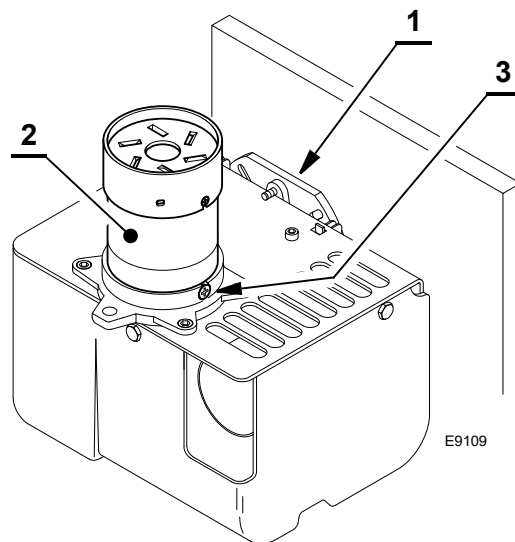

Fig. 20
- Hook the burner to the flange 1)(Fig. 20), by removing the blast tube 2) after loosening the fixing screws 3).